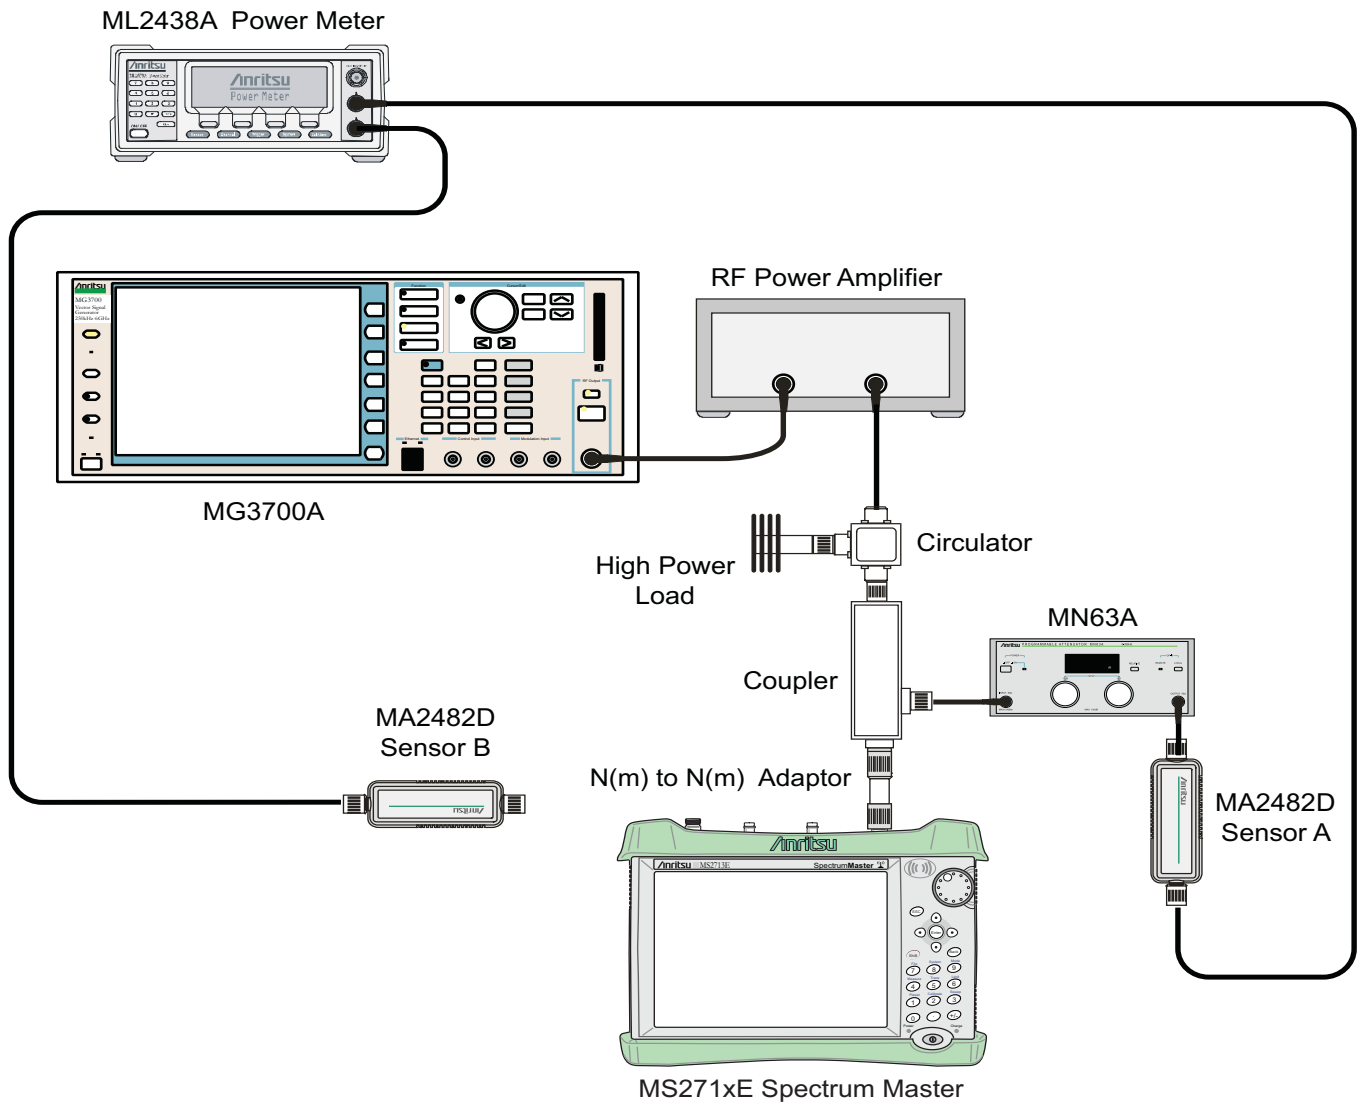

Figure 3-11. WCDMA Signal Analyzer Option Verification (Setup 2)
33. Disconnect the coupler from Sensor B, and connect the coupler to the MS271xE SPA RF In connector. Refer to Figure 3-11.